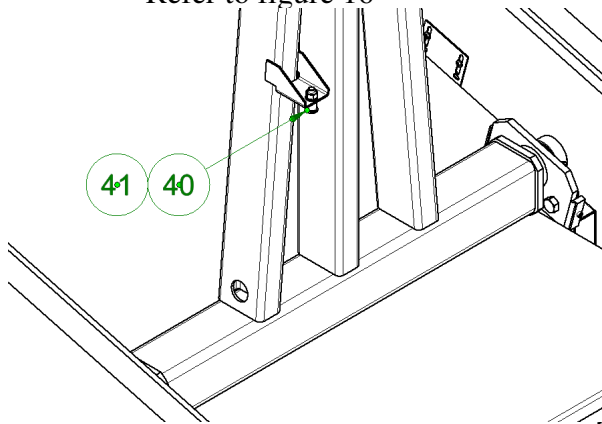

Figure 16
41. Install Striker Bolt (item 40) using Nut 7/16-14 (Item 41) to rear upright arm. Refer to figure 16